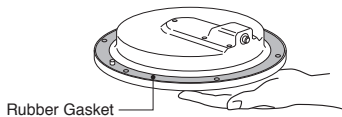

Fig.11
2. Peel off the protective sheet from the Rubber Gasket on the back of the Tru-Trac Bass Drumhead. Turn it over and place it on your hand (Fig. 11).